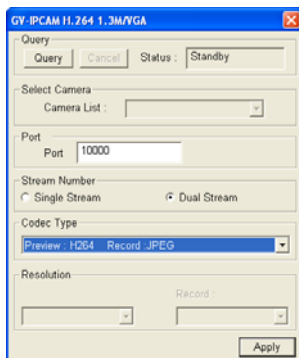

Figure 7-5
- **Preview dual stream record channel:** The option is only available when the dual stream is selected, i.e. the cameras for live view and recording are configured differently (see Figure 7-5). Select this option for recording preview.